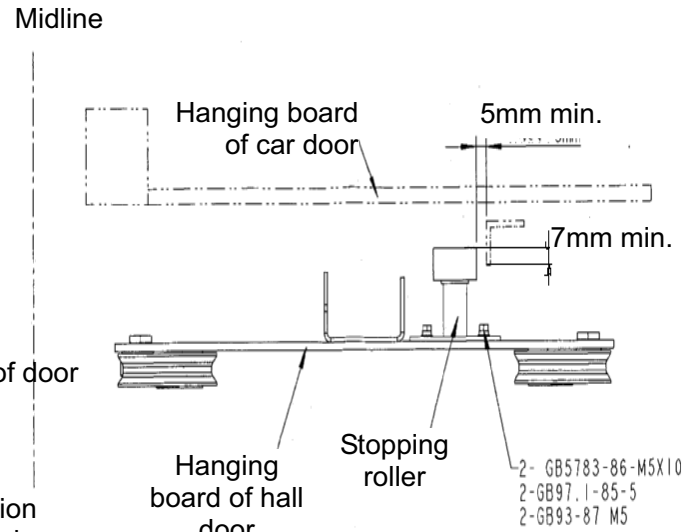

Figure 2-19 Configuration of the pulling protection vane
5. When the door is closed, the relative position of the stopping roller (installed on the hall door hanging board) to the pulling protection door cutter is shown in Figure 2-19. In addition, the distance between the stopping roller and the pulling protection door cutter should be longer than 5 mm when the pulling protection door cutter is in uplift position (during the door closing process, the roller on the pulling protection door cutter will rise under the effect of the bracket of the door operator). In this case, the bracket of the vane will separate from the bracket of the door operator.